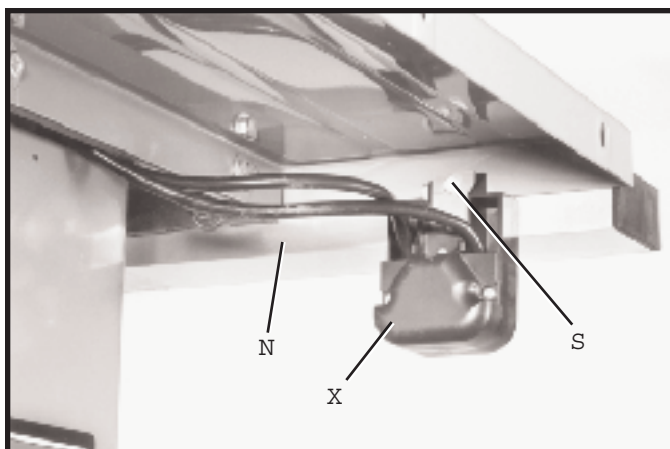
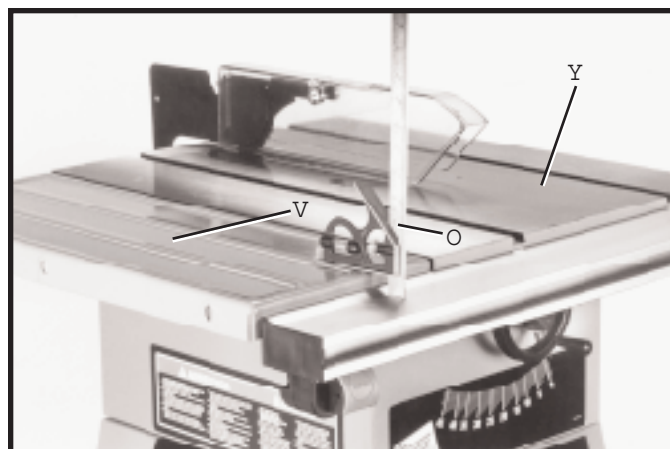

Fig. 34
Fig. 35
22. Using a square (O) Fig. 35, adjust the extension wing (V) parallel to saw table (Y), then tighten screw (S) Fig. 34.